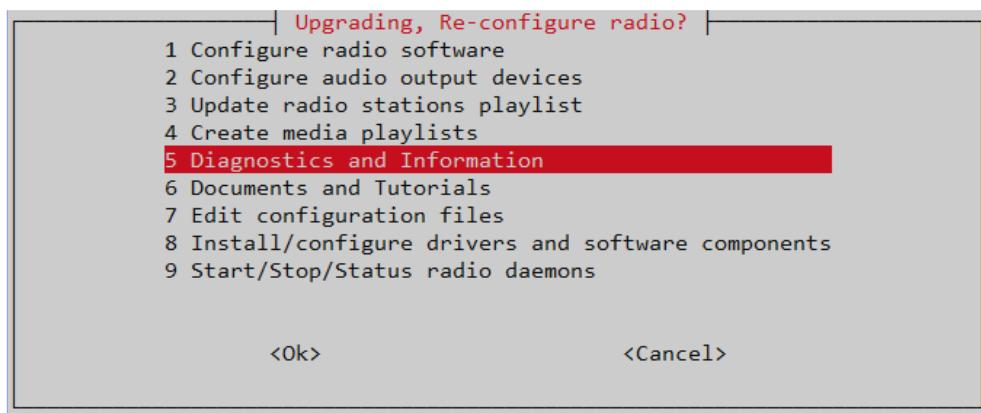

Figure 241 Diagnostics and Information menu
- Select option **1 Run the radio in diagnostic mode (nodaemon)** shown in *Figure 241 Diagnostics and Information menu* on page 198.
- Select option **2 Test rotary encoders** from the diagnostics menu. shown in *Figure 241 Diagnostics and Information menu* on page 198.
- Select option **2 Test rotary encoders** from the diagnostics menu shown in *Figure 241 Diagnostics and Information menu* on page 198.
- Select option **5 Test configured display** from the diagnostics menu shown in *Figure 241 Diagnostics and Information menu* on page 198. This displays the following output